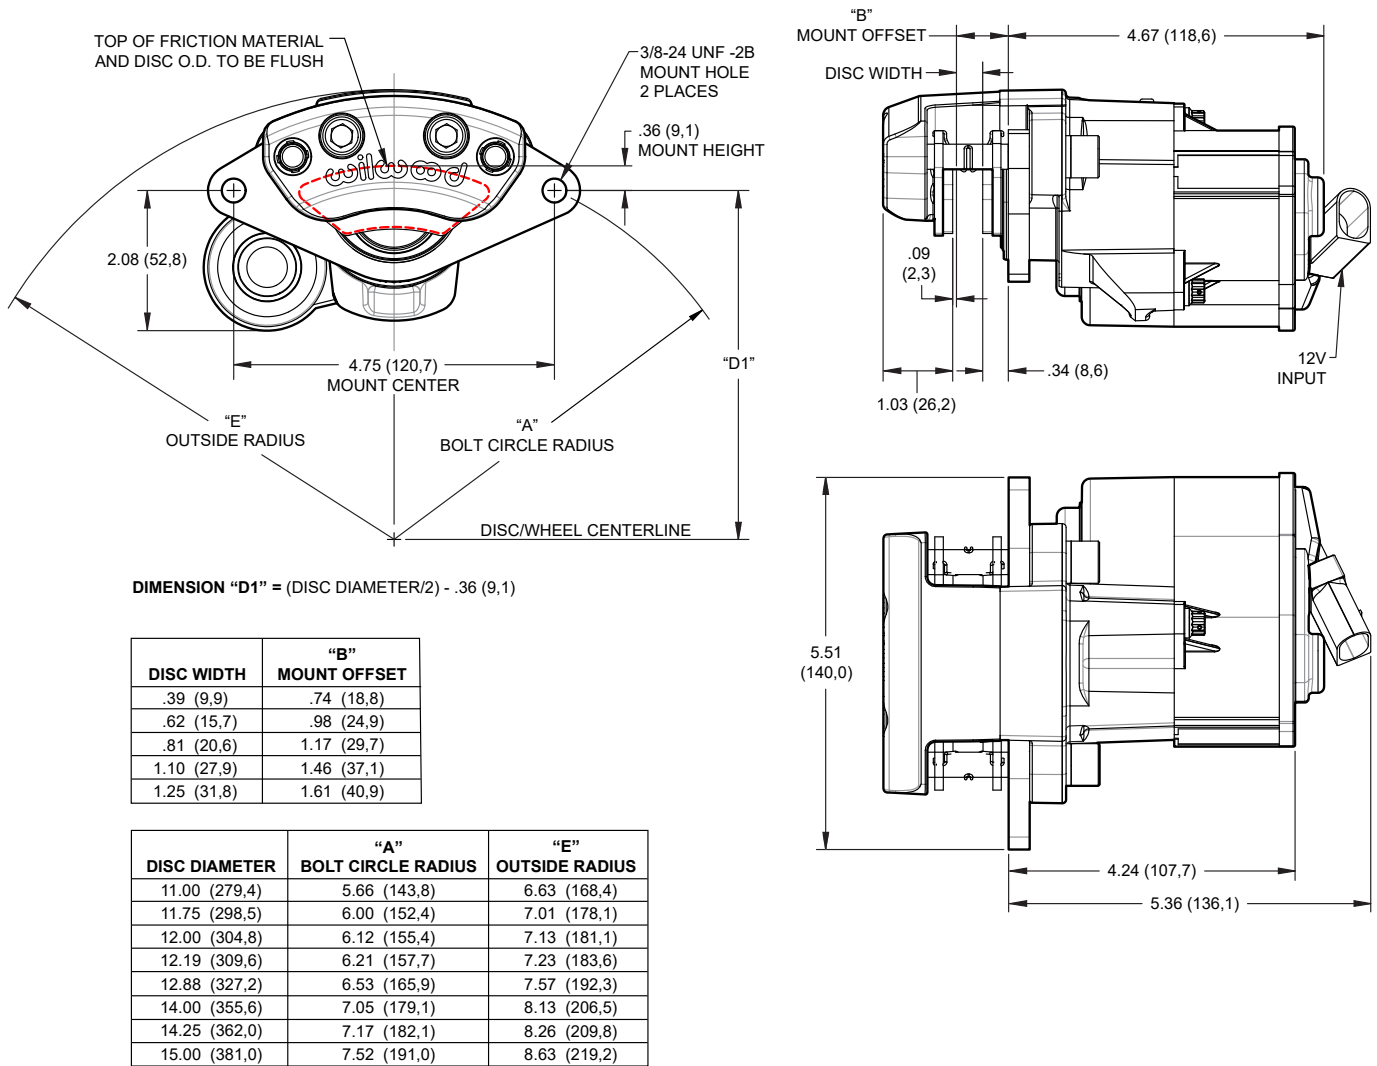

Figure 3. EPB Caliper
- EPB CALIPER - Mount the EPB calipers per the installation instructions included with your specific Wilwood brake kit, reference Figure 3. EPB calipers are left and right handed, however they can be used on either side of the vehicle to best suit your specific application.